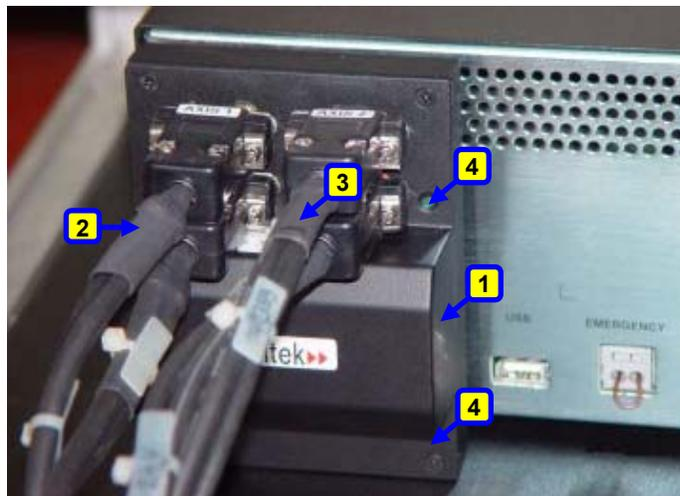

Figure 4: Adaptor and Four Cables
2. Make sure that Controller-USB voltage setting (3) matches your power supply.
3. Make sure the controller's power switch (1) is turned off.
4. Connect the controller's USB socket (8) to the USB socket on the computer.
5. Connect the adaptor to the ROBOT port (9) on the controller. Tighten the connector screws.
6. Connect the four cables coming from the ASRS motor to the four sockets of the adaptor. The cables and the sockets are labeled Axis 1, Axis 2, Axis 3 and Axis 4. Insert cable marked Axis 1 to the socket marked Axis 1, and continue until all four cables are connected to the four sockets. See Figure 4.